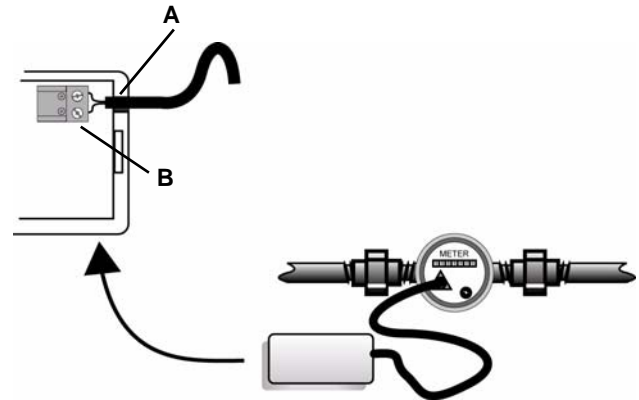

Figure 2 Connect the Transmitter to the Meter
**Note:** Ensure cabling enters the housing through the access wiring thru-hole, and replace the housing (Figure 2).